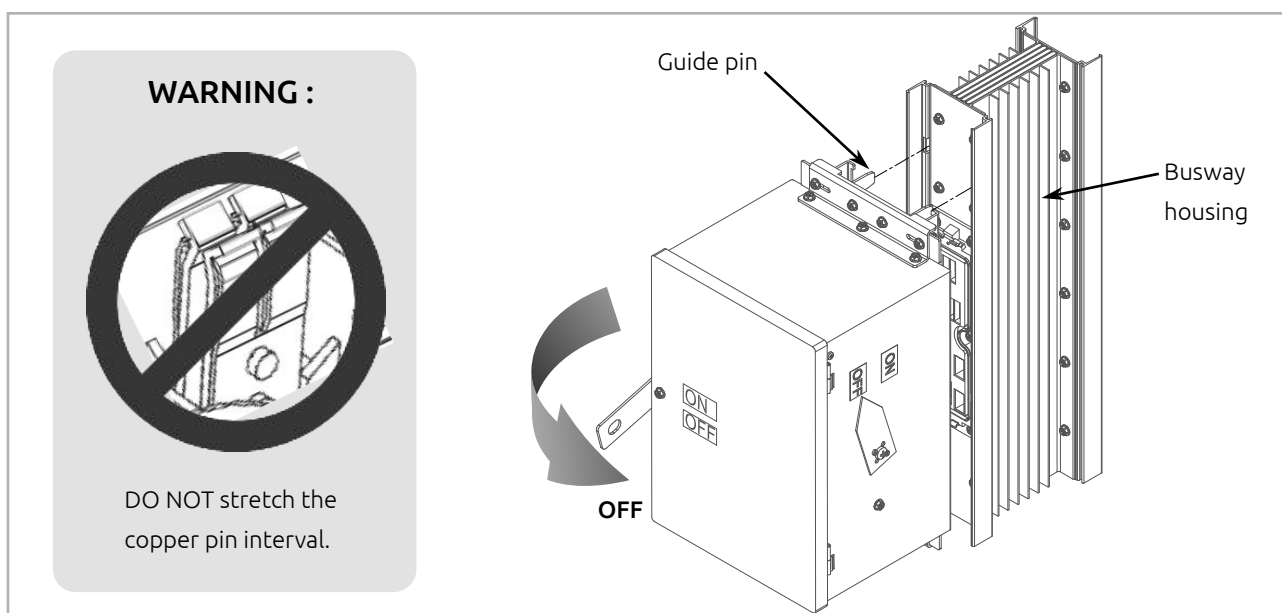

Figure 18.1
4. PIU's handle in "OFF" position. Insert guide pin into busway housing. (Figure 18.1)